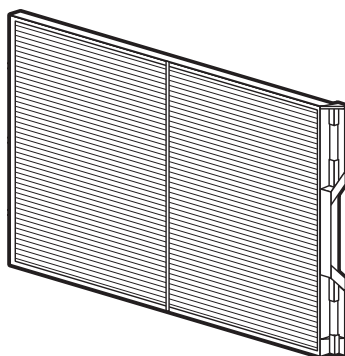
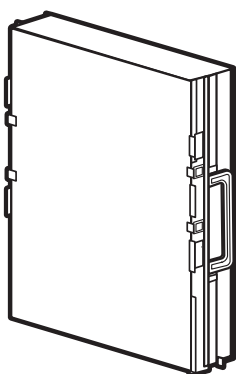

Figure 29 Pre-Filter
Figure 30 Collection Cells
5. Remove the PRE-FILTER (Figure 29) and/or the COLLECTION CELLS (Figure 30) from the air cleaner.
The clean/dirty LED light bar indicator will illuminate as the system cleans the air. The LED lights will progress from green to yellow and then to red. When the last red indicator is flashing, it is time to clean the COLLECTION CELLS (see Figure 29). The air cleaner is factory set to notify the home owner to clean the COLLECTION CELLS every six months [31 weeks] of actual run time of the air cleaner. This notification can be changed by the installer/home owner to 2 months, 4 months, 6 months, or 9 months [10, 20, 31, or 46 weeks] depending on the conditions in the home (pets, smokers, etc.). Please see “SET-UP MODE” (Page 13) to change the factory settings.